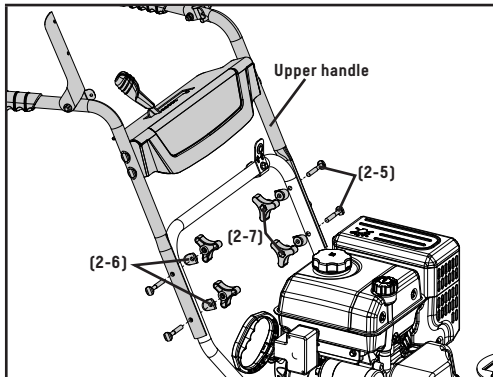

Figure 4
2. Connect the upper handle and lower handle with bolts (2-5), washers (2-6) and locking knobs (2-7) (Fig. 4).